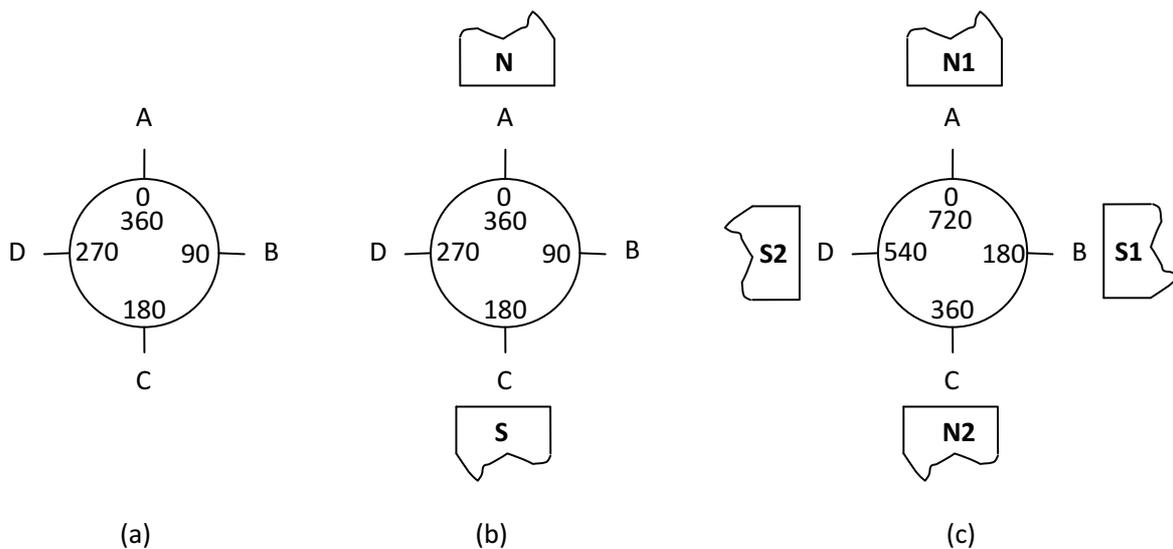

Fig.3.4 - Mechanical and Electrical Degrees
**Mechanical and Electrical degrees:** Mechanical degree,  $\theta_{md}$  is used for accounting the angle between two points on a circle/round object based on their mechanical or physical placement. Fig. 3.4 (a) shows four points A, B, C, and D marked around a circle. Taking point A as reference, ie., as  $0^\circ$ , point C is located exactly opposite to point A and is marked as  $180^\circ$  mechanical degree or simply  $180^\circ$  degrees. In between points A and C, points B and D are marked as  $90^\circ$  and  $270^\circ$  respectively. Point A is also marked as  $360^\circ$ , as it is the same point as the reference point, reached after going around circle once.
Electrical degree,  $q_{ed}$  is used for accounting the angle between two points in rotating electrical machines. Since all electrical machines operate with the help of magnetic fields, the electrical degree is used with reference to the polarity of the magnetic field. Consider a two pole machine, as shown in Fig. 3.4 (b). Point A is exactly under the North pole field and is selected as reference point with  $0^\circ$ . Point C is under the South pole and magnetically opposite to North pole. It is marked as  $180^\circ_{ed}$  or  $180^\circ_e$ . After one encircling, point A is reached and marked as  $360^\circ_{ed}$  or  $360^\circ_e$ . Fig. 3.4 (b) is identical to Fig. 3.4 (a), for a two pole machine.
Consider a 4 pole machine, as shown in Fig. 3.4 (c). Point A is under North pole N1 and marked as  $0^\circ\epsilon$ . Moving clockwise, point B is situated at  $90^\circ_{md}$  from point A. But point B is under South pole S1, which is magnetically opposite to N1. Hence, point B is marked as  $180^\circ\epsilon$ . Now, point C is under N2, which is  $180^\circ_{md}$  away from point A. Point C has the same magnetic polarity as that of point A, hence it is marked as  $360^\circ\epsilon$ . Point D under S2 is  $270^\circ_{md}$  from point A, and hence marked as  $540^\circ\epsilon$ , ie.,  $360^\circ\epsilon + 180^\circ\epsilon = 540^\circ\epsilon$ . After one complete encircling, point A is reached again, and marked as  $720^\circ\epsilon$ , ie.,  $540^\circ\epsilon + 180^\circ\epsilon = 720^\circ\epsilon$ .